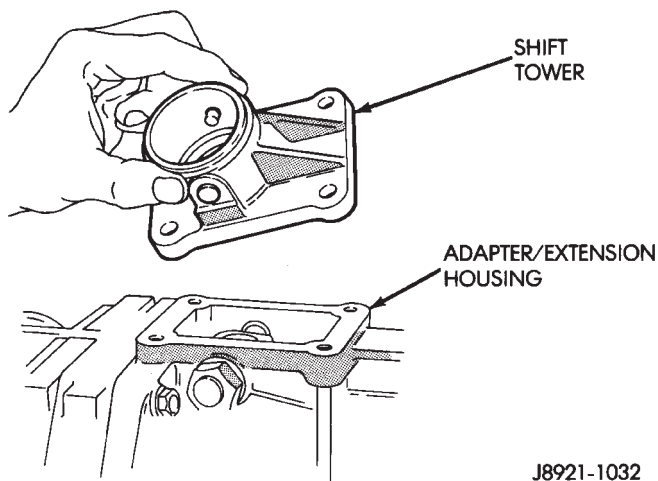

Fig. 2 Shift Tower Removal/Installation
(3) Remove shift tower bolts and remove tower from adapter or extension housing (Fig. 2).